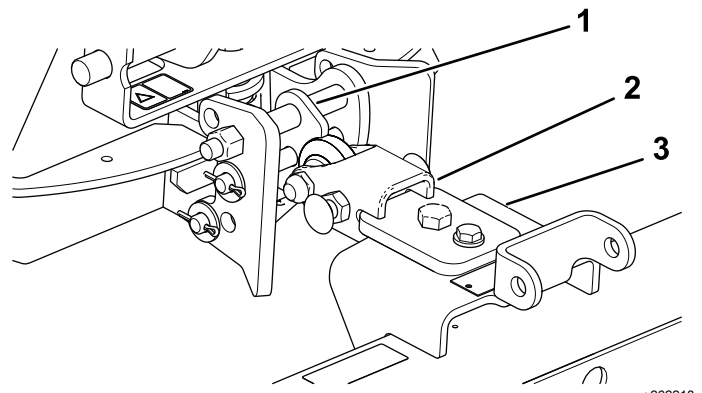

**Figure 10**
1. Mount the hitch assembly so that the flat side is on top (Figure 10).
2. Assemble the drawbar to the underside of the hanger assembly (Figure 10).